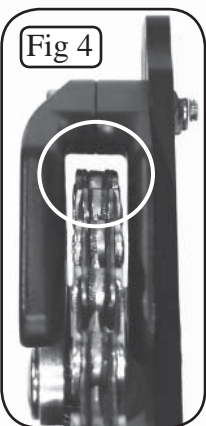
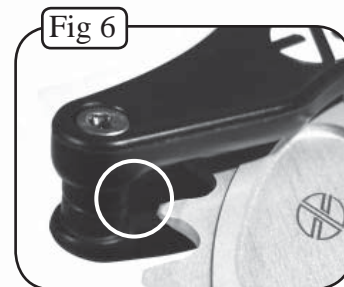

Fig 4
Fig 6
8) Re-install your crankarm/chainring assembly on to the bottom bracket spindle. Tighten the cranks all the way down. Re-install the upper slider assembly onto the backplate. The upper slider should be directly centered over the chainring. If this is not the case, then add or subtract chainline spacers (refer to Table 1) from BETWEEN the ISCG mount and the BACK PLATE to accomplish this alignment requirement (as seen in Fig 4). Re-install the entire lower assembly. The lower idler should be aligned with the chainring at this point. The upper arm of the back plate is designed to be bent (with a fair amount of force) for fine tuning if needed. This is usually not necessary.
9) Adjust the height of the upper slider so that the upper crossbrace of the slider is about 3 mm [1/8 inch] from the top of the chain (again, see Fig4). The rearward crossbrace of the upper slider should be about 3mm [1/8 inch] from the chainring itself (see Fig 6). Torque the screws to 3.5 in-lbs (about as much force as you can generate by holding the SHORT end of an "L-Shaped" 3mm Allen Wrench).